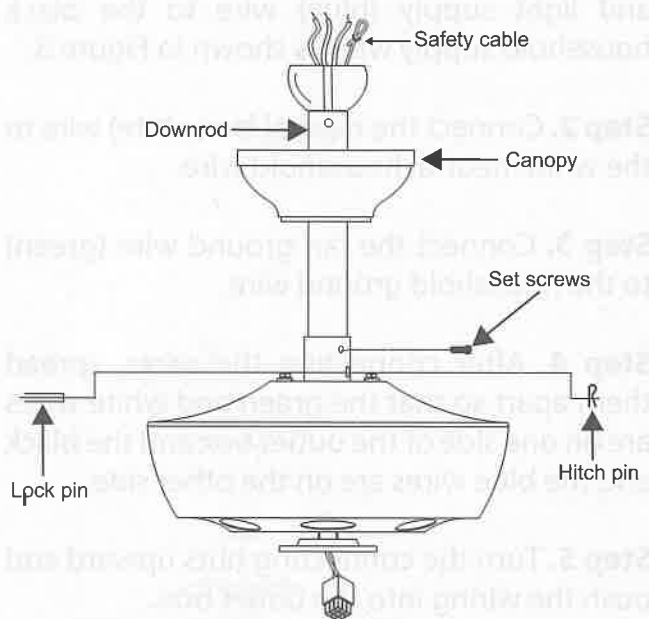

Figure 6
**Step 3.** Remove the hanger pin, lock pin and set screws from the top of the motor assembly. (Fig. 6)
**Step 4.** Route the safety cable and wires exiting from the top of the fan motor through the decorative scroll assembly, canopy cover, canopy and then through the ball / downrod. (Fig. 6)
**Step 6.** Align the holes at the bottom of the downrod with the holes in the collar on top of the motor housing (Fig. 6). Carefully insert the hanger pin through the holes in the collar and downrod. Be careful not to jam the pin against the wiring inside the downrod. Insert the locking pin through the hole near the end of the hanger pin until it snaps into its locked position, as noted in the circle inset of Fig. 6.
**Step 7.** Tighten two set screws on top of the fan motor firmly. (Fig. 6)